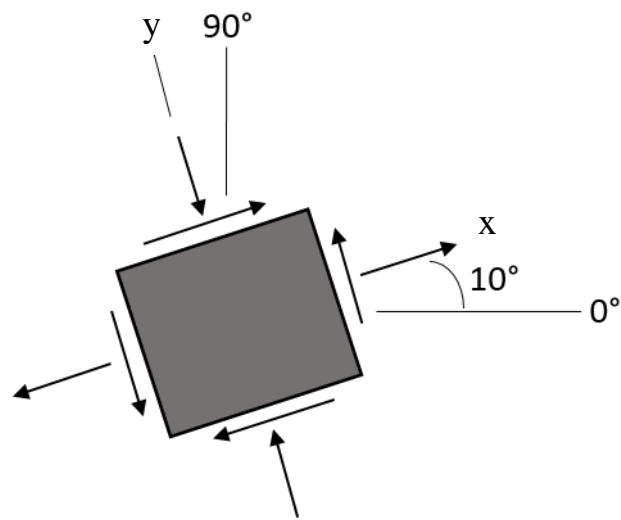

Figure 9 / *Rajah 9*
6. Determine the equivalent state of stress on an element at the same point for the following cases with respect to the element shown in **Figure 9** using Mohr's circle. Normal stress in x and y directions are 50 N/mm^2 and 70 N/mm^2 , respectively, while shear stress is 30 N/mm^2 . Sketch the corresponding element for each result.